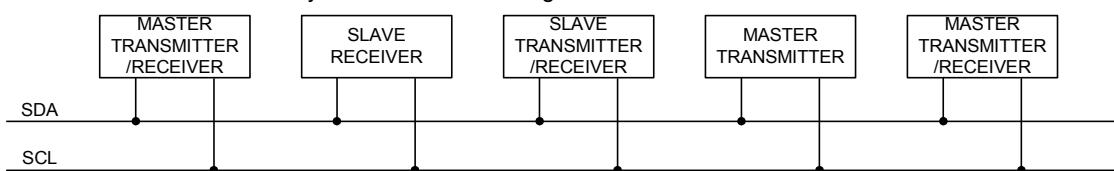
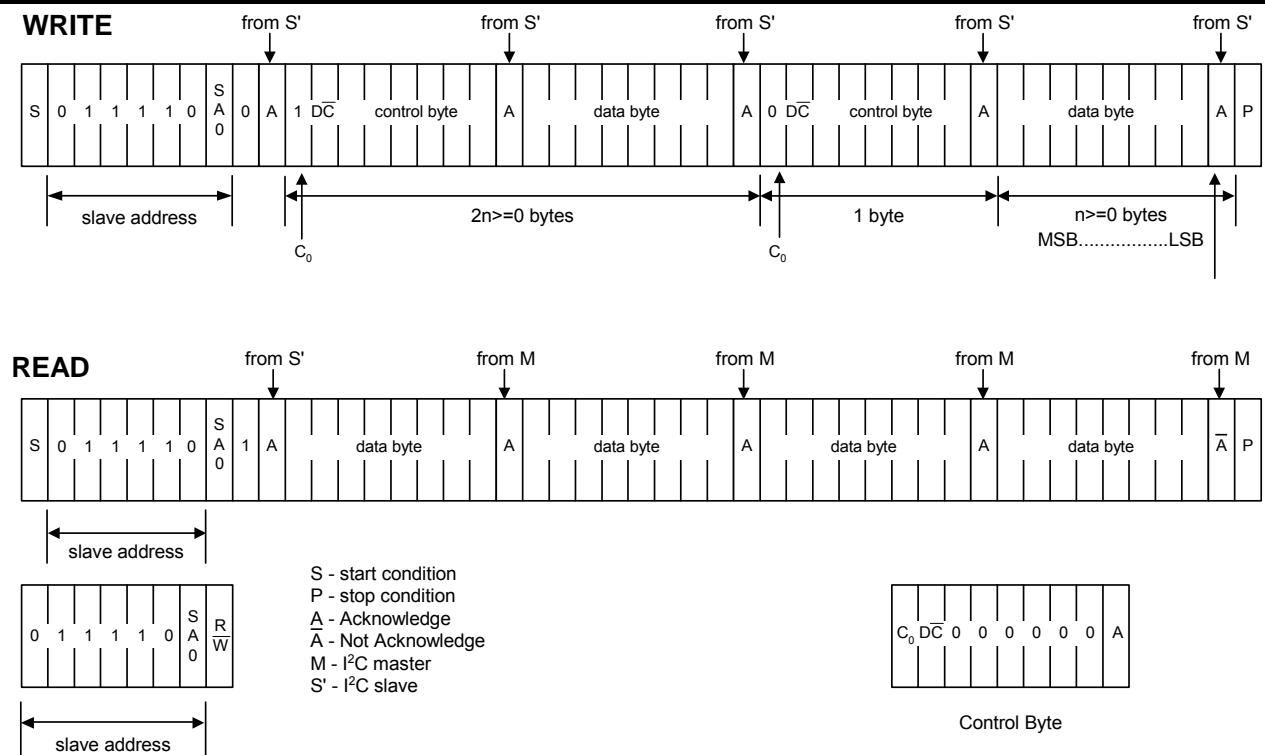

Figure. 7 System configuration
Figure 9 I²C Protocol
The SH1122 supports both read and write access. The R/W bit is part of the slave address. Before any data is transmitted on the I²C-bus, the device that should respond is addressed first. Two 7-bit slave addresses (0111100 and 0111101) are reserved for the SH1122. The least significant bit of the slave address is set by connecting the input SA0 to either logic 0(V_{SS}) or 1(V_{DD}). The I²C-bus protocol is illustrated in Fig.9. The sequence is initiated with a START condition (S) from the I²C-bus master that is followed by the slave address. All slaves with the corresponding address acknowledge in parallel, all the others will ignore the I²C-bus transfer. After acknowledgement, one or more command words follow which define the status of the addressed slaves. A command word consists of a control byte, which defines Co and D/C (note1), plus a data byte (see Fig.7). The last control byte is tagged with a cleared most significant bit, the continuation bit Co. After a control byte with a cleared Co-bit, only data bytes will follow. The state of the D/C-bit defines whether the data-byte is interpreted as a command or as RAM-data. The control and data bytes are also acknowledged by all addressed slaves on the bus. After the last control byte, depending on the D/C bit setting, either a series of display data bytes or command data bytes may follow. If the D/C bit was set to '1', these display bytes are stored in the display RAM at the address specified by the data pointer. The data pointer is automatically updated and the data is directed to the intended SH1122 device. If the D/C bit of the last control byte was set to '0', these command bytes will be decoded and the setting of the device will be changed according to the received commands. The acknowledgement after each byte is made only by the addressed slave. At the end of the transmission the I²C-bus master issues a stop condition (P). If the R/W bit is set to one in the slave-address, the chip will output data immediately after the slave-address according to the D/C bit, which was sent during the last write access. If no acknowledge is generated by the master after a byte, the driver stops transferring data to the master.